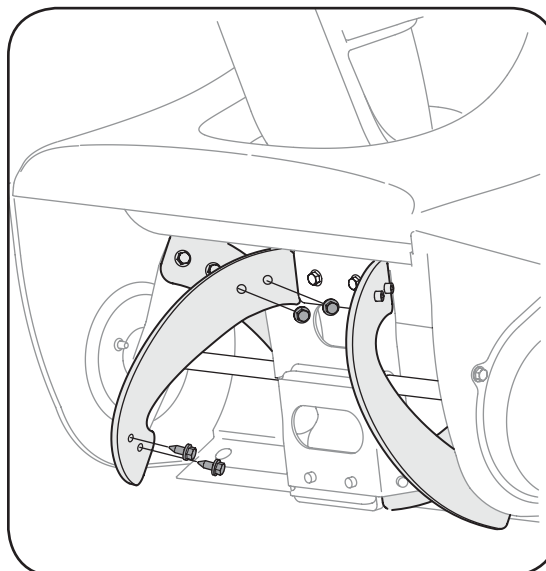

Figure 6-5
1. Remove the existing rubber paddles by unthreading the self-tapping screws which secure them to the auger. See Figure 6-5.